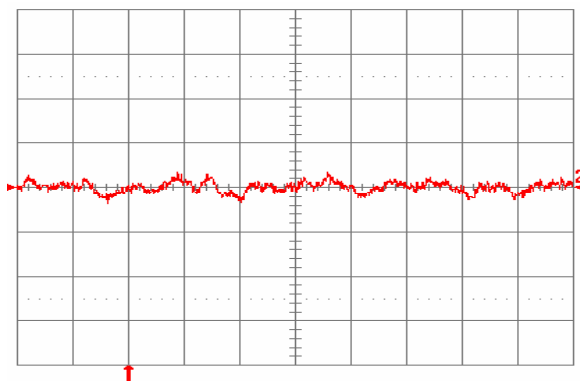

**Fig. 6.0V.14:** Test Setup for measuring input reflected ripple currents,  $i_c$  and  $i_s$ .
**Fig. 6.0V.1:** Available load current vs. ambient air temperature and airflow rates for SQ48T08060 converter with D height pins mounted vertically with  $V_{in} = 48\text{ V}$ , air flowing from pin 3 to pin 1, and maximum FET temperature  $\leq 120^\circ\text{C}$ .
**Fig. 6.0V.2:** Available load current vs. ambient air temperature and airflow rates for SQ48T08060 converter with D height pins mounted horizontally with  $V_{in} = 48\text{ V}$ , air flowing from pin 3 to pin 1, and maximum FET temperature  $\leq 120^\circ\text{C}$ .
**Fig. 6.0V.3:** Available load current vs. ambient air temperature and airflow rates for SQ48S08060 converter mounted vertically with  $V_{in} = 48$  V, air flowing from pin 3 to pin 1, and maximum FET temperature  $\leq 120$  °C.
**Fig. 6.0V.4:** Available load current vs. ambient air temperature and airflow rates for SQ48S08060 converter mounted horizontally with  $V_{in} = 48$  V, air flowing from pin 3 to pin 1, and maximum FET temperature  $\leq 120$  °C.
**Fig. 6.0V.5:** Efficiency vs. load current and input voltage for SQ48T/S08060 converter mounted vertically with air flowing from pin 3 to pin 1 at a rate of 300 LFM (1.5 m/s) and  $T_a = 25$  °C.
**Fig. 6.0V.6:** Efficiency vs. load current and ambient temperature for SQ48T/S08060 converter mounted vertically with  $V_{in} = 48$  V and air flowing from pin 3 to pin 1 at a rate of 200 LFM (1.0 m/s).
**Fig. 6.0V.7:** Power dissipation vs. load current and input voltage for SQ48T/S08060 converter mounted vertically with air flowing from pin 3 to pin 1 at a rate of 300 LFM (1.5 m/s) and  $T_a = 25^\circ\text{C}$ .
**Fig. 6.0V.8:** Power dissipation vs. load current and ambient temperature for SQ48T/S08060 converter mounted vertically with  $V_{in} = 48\text{ V}$  and air flowing from pin 3 to pin 1 at a rate of 200 LFM (1.0 m/s).
**Fig. 6.0V.9:** Turn-on transient at full rated load current (resistive) with no output capacitor at  $V_{in} = 48\text{ V}$ , triggered via ON/OFF pin. Top trace: ON/OFF signal (5 V/div.). Bottom trace: output voltage (2 V/div.). Time scale: 2 ms/div.
**Fig. 6.0V.10:** Turn-on transient at full rated load current (resistive) plus 10,000  $\mu\text{F}$  at  $V_{in} = 48\text{ V}$ , triggered via ON/OFF pin. Top trace: ON/OFF signal (5 V/div.). Bottom trace: output voltage (2 V/div.). Time scale: 5 ms/div.
**Fig. 6.0V.11:** Output voltage response to load current step-change (2 A – 4 A – 2 A) at  $V_{in} = 48$  V. Top trace: output voltage (100 mV/div.). Bottom trace: load current (2 A/div.). Current slew rate: 0.1 A/ $\mu$ s.  $C_o = 1$   $\mu$ F ceramic. Time scale: 0.2 ms/div.
**Fig. 6.0V.12:** Output voltage response to load current step-change (2 A – 4 A – 2 A) at  $V_{in} = 48$  V. Top trace: output voltage (100 mV/div.). Bottom trace: load current (2 A/div.). Current slew rate: 5 A/ $\mu$ s.  $C_o = 450$   $\mu$ F tantalum + 1  $\mu$ F ceramic. Time scale: 0.2 ms/div.
**Fig. 6.0V.13:** Output voltage ripple (50 mV/div.) at full rated load current into a resistive load with  $C_o = 10$   $\mu$ F tantalum + 1  $\mu$ F ceramic and  $V_{in} = 48$  V. Time scale: 1  $\mu$ s/div.
**Fig. 6.0V.15:** Input reflected ripple current,  $i_c$  (100 mA/div.), measured at input terminals at full rated load current and  $V_{in} = 48$  V. Refer to Fig. 6.0V.14 for test setup. Time scale: 1  $\mu$ s/div.
**Fig. 6.0V.16:** Input reflected ripple current,  $i_s$  (10 mA/div.), measured through 10  $\mu$ H at the source at full rated load current and  $V_{in} = 48$  V. Refer to Fig. 6.0V.14 for test setup. Time scale: 1  $\mu$ s/div.
**Fig. 6.0V.17:** Output voltage vs. load current showing current limit point and converter shutdown point. Input voltage has almost no effect on current limit characteristic.
**Fig. 6.0V.18:** Load current (top trace, 10 A/div., 20 ms/div.) into a 10  $m\Omega$  short circuit during restart, at  $V_{in} = 48$  V. Bottom trace (10 A/div., 1 ms/div.) is an expansion of the on-time portion of the top trace.